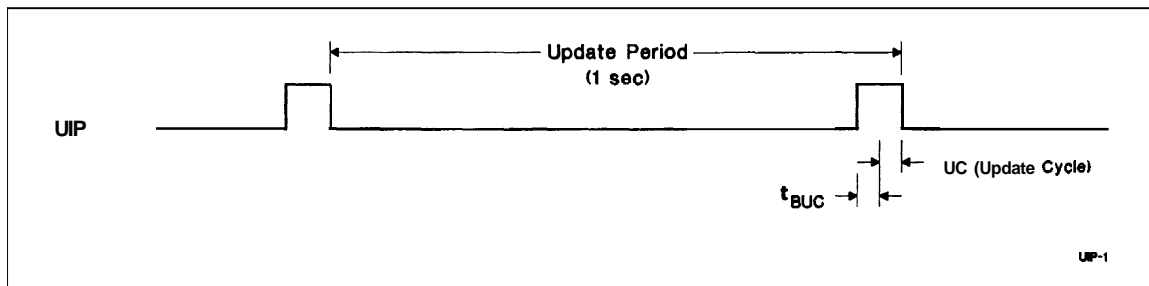

Figure 2. Update Period Timing and UIP
each update period (see Figure 2). The alarm flag bit may also be set during the update cycle.
The update-in-progress bit (UIP) in register A is set tBUC time before the beginning of an update cycle (see Figure 2). This bit is cleared and the update-complete flag (UF) is set at the end of the update cycle.